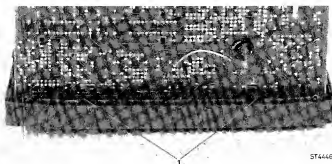

Fig. 5.3. Removing the front
- Bend out the two hooks of the front plate at the bottom of the printed-circuit board (Fig. 5.3. item 1).